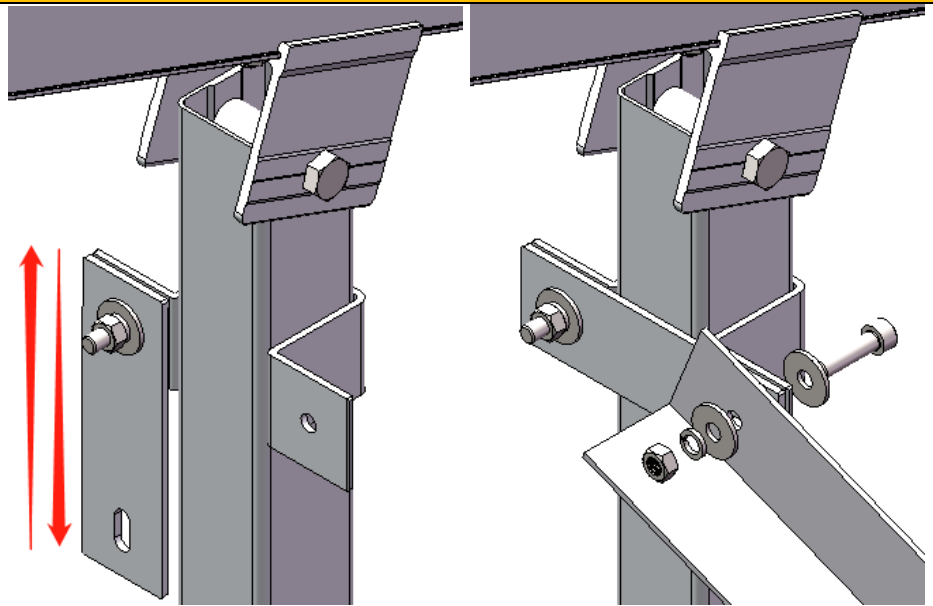

Figure 12
4.4.1 According engineer plan, lightly lock Connector for Rectangular Tube on the rear leg of Support as shown in Figure 12. Insert M8*30 through the hole on Angel AL.